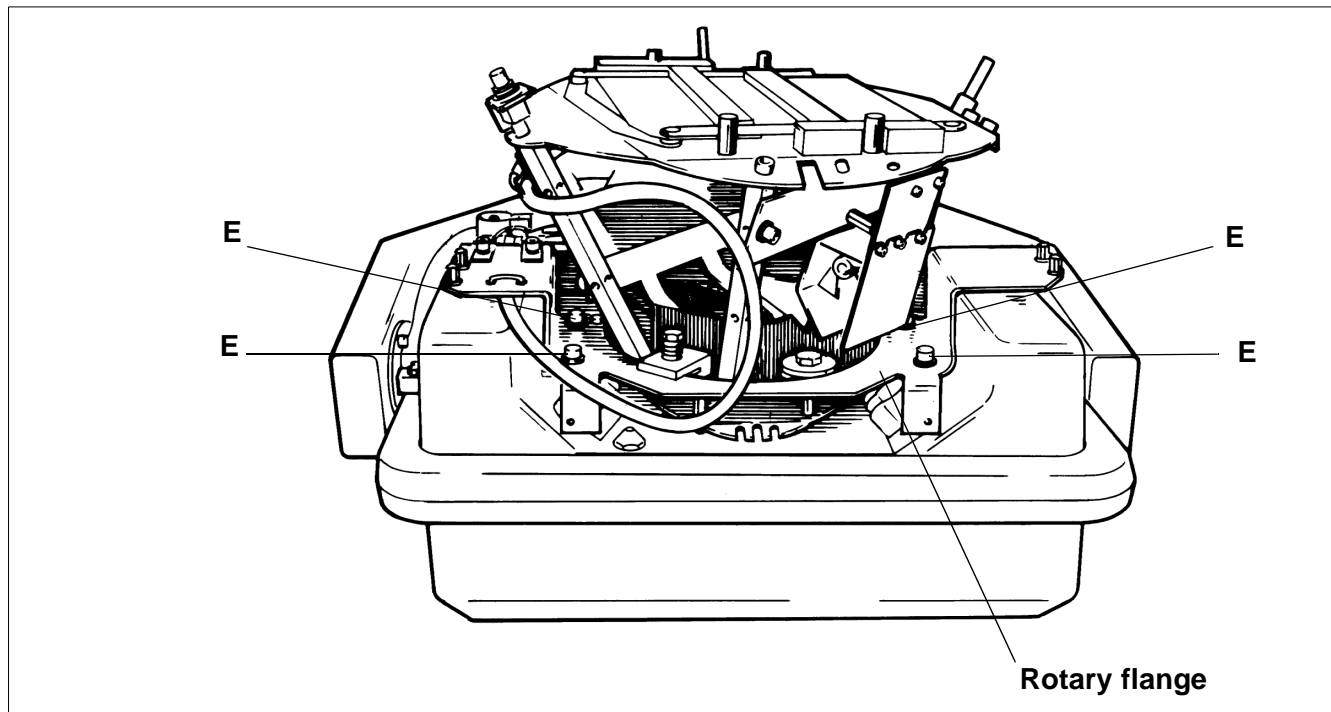

Fig. 14
- Tighten the screws marked "E" (Fig. 14).